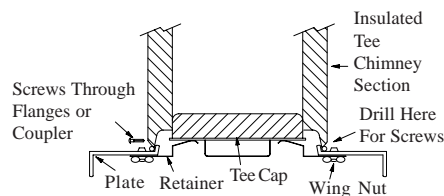

Figure 11A
9. Place the Insulated Tee on the support plate ensuring that the male coupler of the Tee is facing up and the flange on the top of the plateslides into the female coupler. Insert and secure the Tee Cap (see Figure 11A) with the attached retainer clips. A Tee Plug with drain is also available for condensation and provides access for cleaning out soot/and debris.